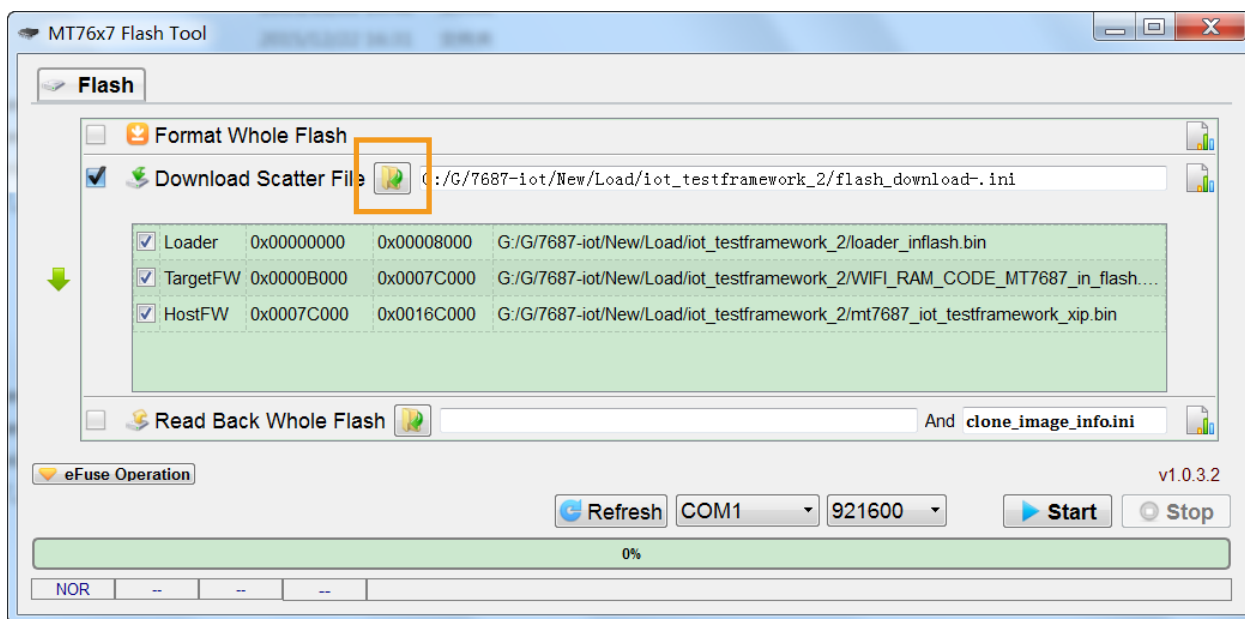

Figure 5. Download an image to the device storage
- 2) Click **open folder** to provide the scatter file. It's an **Image Description File** that contains the partition layout of the device along with the project load. The detailed content including **Name**, **Start Address**, **End Address** and the **Location** of the files are displayed in a table, as shown in Figure 5.